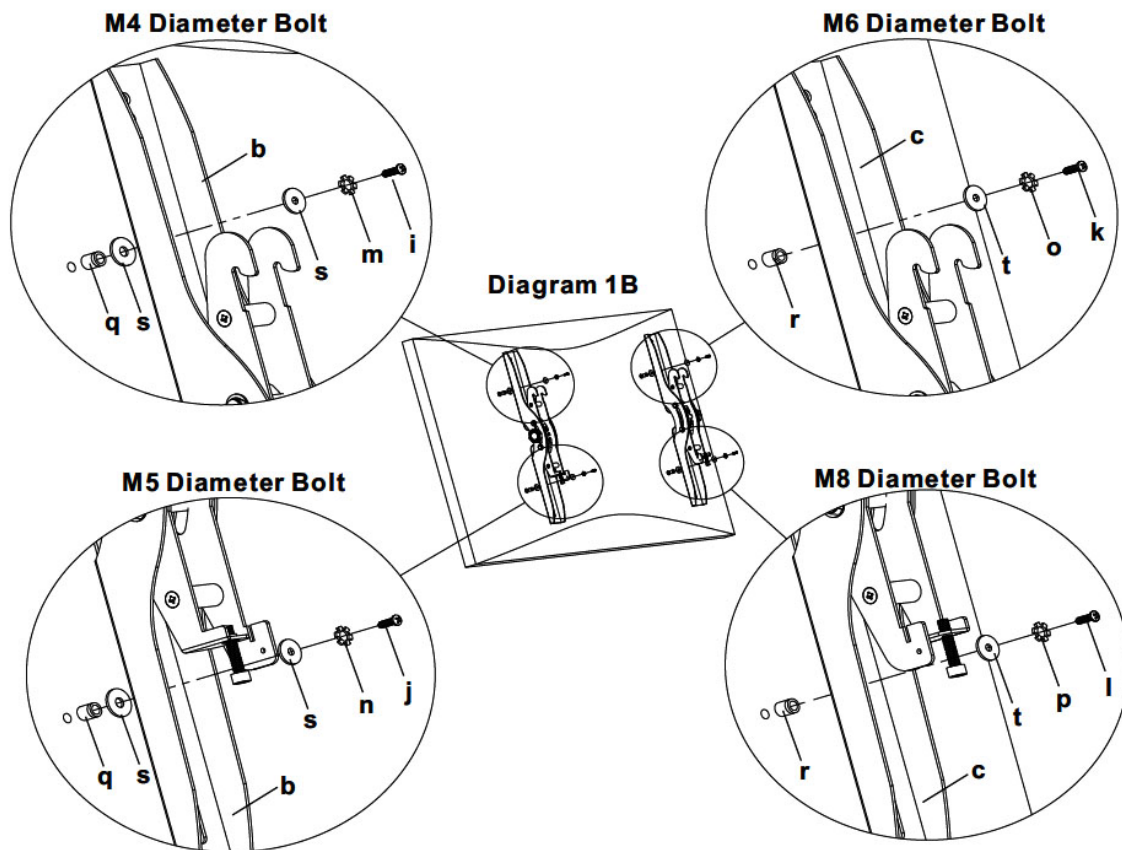

Figure 5
4. Thread the bolts into the TV using the correct lock washer (m, n, o, p), washer (s, t) and spacer (q, r). For the M4x30 Bolt (i) and M5x30 Bolt (j), you will need another washer (s) between the monitor bracket and the spacer. See Figure 5.